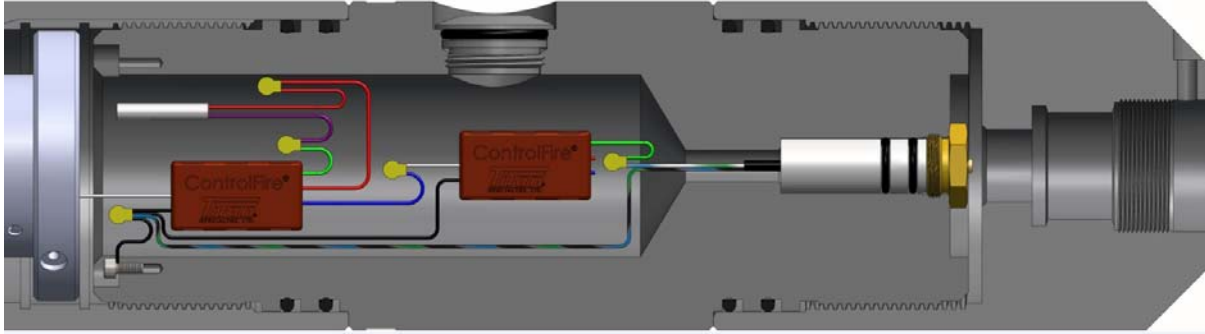

Figure 59
- **Arming Bottom Gun (With Plug):** **THERE SHOULD BE TWO ControlFire® SWITCHES BELOW THE BOTTOM GUN: ONE FOR THE BOTTOM GUN AND ONE FOR THE IGNITER TO THE SETTING TOOL.** Secure detonator body into an approved explosives safety tube. It is recommended to always check the detonator resistance using an approved explosives safety multimeter when applicable. Connect the appropriate detonator wire to the red wire of the ControlFire® switch which is directly attached to the bottom gun. Connect the appropriate detonator wire to the red wire of the ControlFire® switch for the bottom gun. Note that the red wire of the ControlFire® switch is ground. Connect appropriate wire of the detonator to the green wire of the ControlFire® switch for the bottom gun. Note that the green wire of the ControlFire® switch is negative voltage input (live wire). Remove detonator body from the explosives safety tube. Attach detonator to detonating cord coming from the above gun. The green wire from the additional ControlFire® switch (Plug Switch) should be connected to the through wire which connects to the bulk head (9400-EBTW) going down to the igniter as shown in Figure 59. The blue and red wire of the last ControlFire® switch (Plug Switch) should be cut. It is recommended to terminate the blue wire so that the end of the blue wire does not come into contact with the sub body. Figure 59 shows proper wiring when arming for the bottom gun and plug shoot adapter. Attach any adapters and the setting tool firing head which contains a compatible igniter.